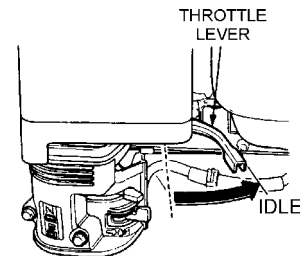

Figure 14. Throttle Lever (Idle)
1. Move the throttle lever to the IDLE position (See Figure 14) and run the engine for three minutes at low speed.